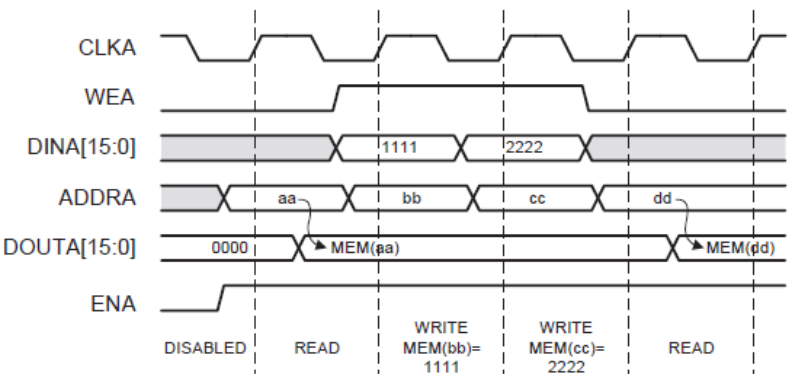

Figure 3-11: No Change Mode Example
- **No Change Mode:** In NO\_CHANGE mode, the output latches remain unchanged during a Write operation. As shown in Figure 3-11, the data output is still the previous Read data and is unaffected by a Write operation on the same port.